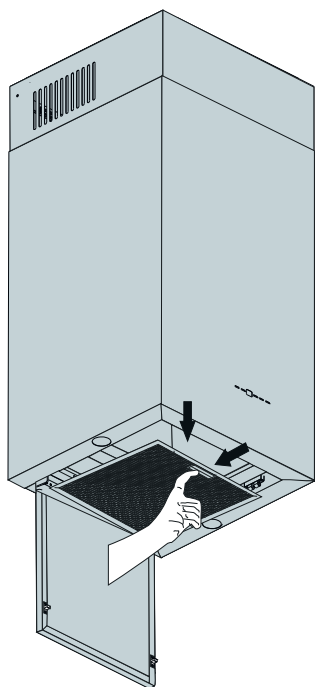

Fig. 12
- 1.** ➔ To remove the side suction plate, hold from the top right and left points and pull down (Fig. 12).
Open the aluminium cartridge filter lock by pressing the tab and remove it from its socket (Fig. 12).